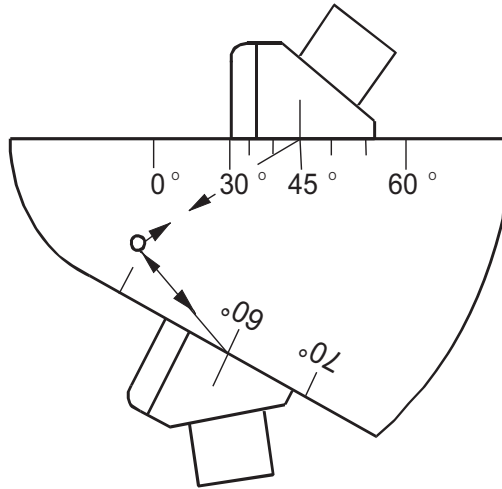

Figure 5-42: B1 Block Refraction Angle Transducer Locations
b) B1 Block Refraction Angle Transducer Locations - For the B1 Block, use the reflection from the side drill hole, as shown in *Figure 5-42*, and maximize the echoes as before.